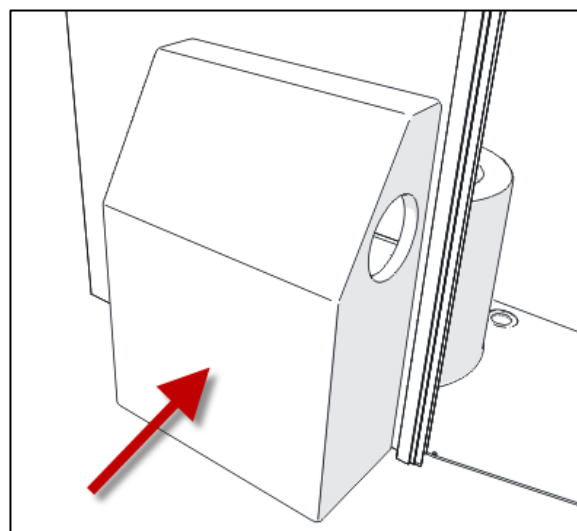

FIGURE 9
12. Remove the garbage cover and the garbage (Figure 9).